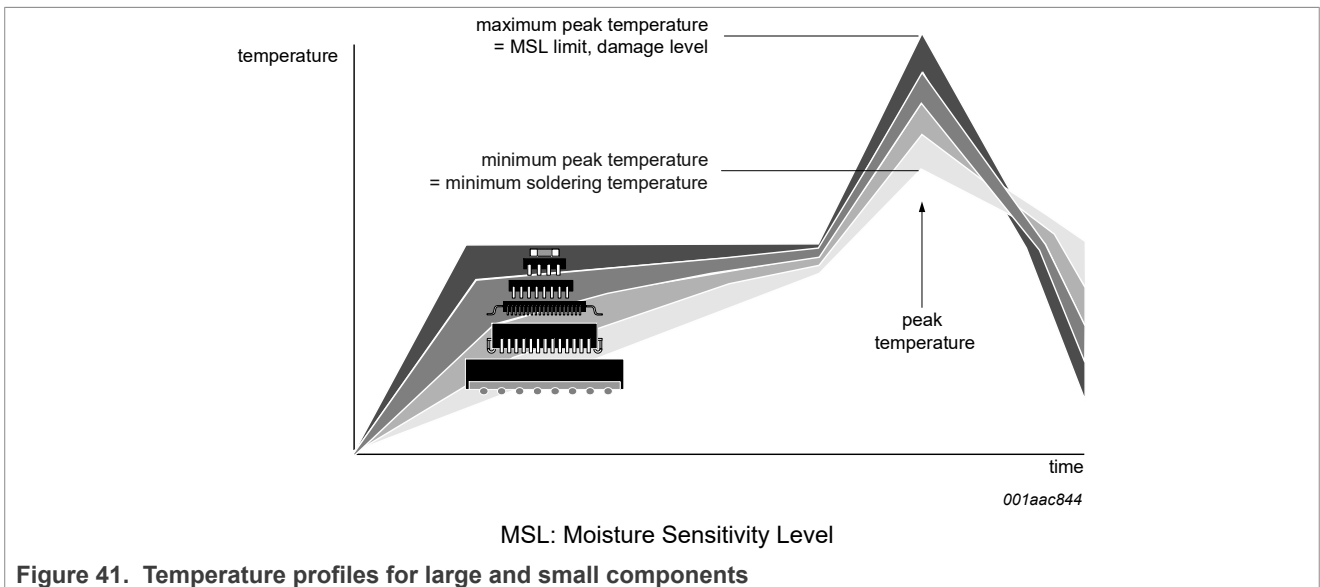

Figure 41. Temperature profiles for large and small components
- Lead-free versus SnPb soldering; note that a lead-free reflow process usually leads to higher minimum peak temperatures (see Figure 41) than a SnPb process, thus reducing the process window
Studies have shown that small packages reach higher temperatures during reflow soldering, see Figure 41.